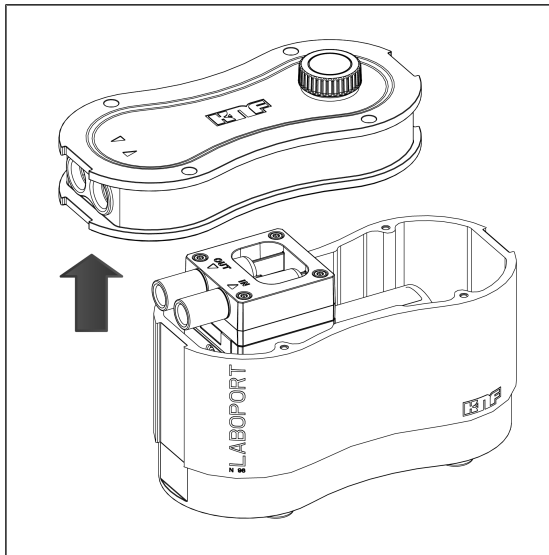

Fig.10: Removing the housing cover
3. Carefully remove the housing cover (2) and place it next to the pump housing (3) (see Fig. 10).
- i** When removing the housing cover (2), make certain that no larger tensile forces are exerted on the cables and that the cables are not damaged